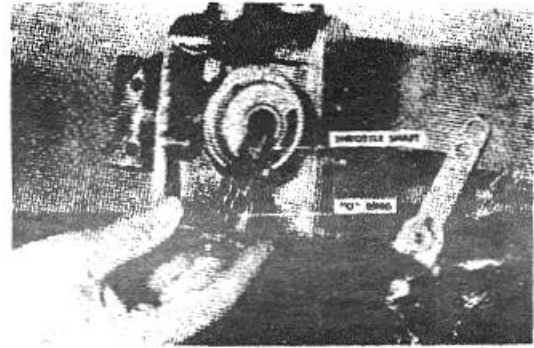
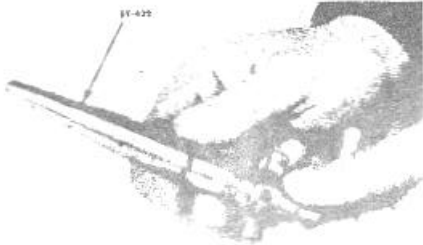

Figure 4-69. Throttle shaft assembly variable speed governed pump.
Figure 4-67. Installing throttle shaft "O" ring.
11. Replace the "O" ring on the throttle shaft using ST-422. Fig. 4-67. Insert the throttle shaft assembly. Fig. 4-68 and Fig. 4-69. Coat assembly with Lubriplate before inserting. The "O" ring must be replaced each time the throttle shaft is removed regardless of appearance.